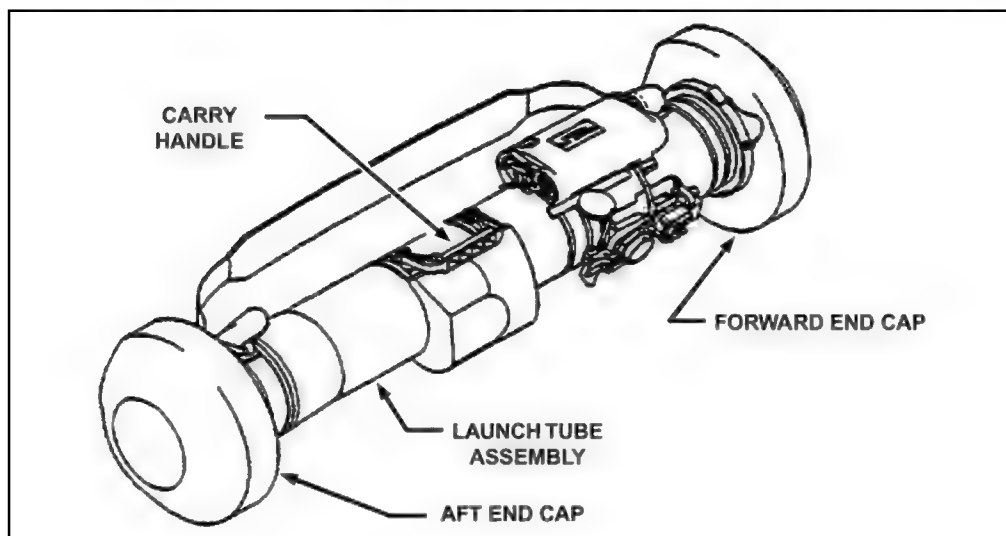

Figure 1-16. LTA, end caps, and carry handle.
The round consists of the LTA, the BCU, and the missile (Figure 1-16, page 1-11). The LTA interfaces with the CLU and serves both as a handling container and launch platform for the missile. The LTA consists of a launch tube, forward and aft end caps,
(1) The forward end cap protects the seeker dome from moisture, dust, and other elements that could harm it. The forward end cap is removed when preparing for launch. The pressure release valve is used to reduce the pressure in the LTA so the forward end cap can be removed. If the missile is not fired, replace the forward end cap (Figure 1-16) to protect the seeker dome.
(2) The aft end cap (Figure 1-16) is permanently attached to the LTA. The center of the cap is blown out by the launch motor blast during launch.
c. **Carry Handle.** The carry handle (Figure 1-16) is used to lift and carry the round.